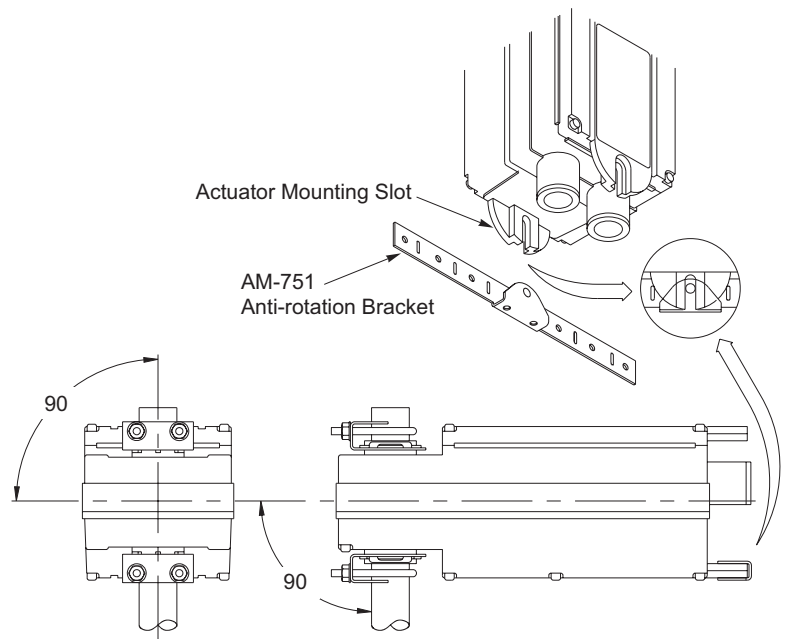

Figure-8 Mounting Anti-rotation Bracket to Actuator.
4. Align the actuator at 90° (perpendicular) to the damper shaft. See Figure-8.
5. Slide the anti-rotation bracket pin into the mounting slot on the actuator and drill mounting holes. See Figure-8. For narrow spaces, the AM-752 anti-rotation bracket is recommended (order separately).
7. Slide the anti-rotation bracket pin into the mounting slot on the actuator. See Figure-8. For narrow spaces, the AM-752 anti-rotation bracket is recommended (order separately).